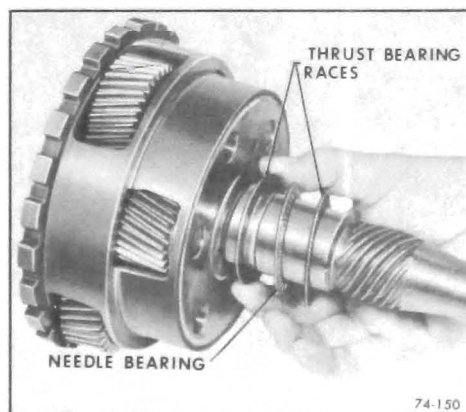

Figure 74-150
3. Remove needle bearing and two (2) bearing races from rear of planet carrier. See Figure 74-150.